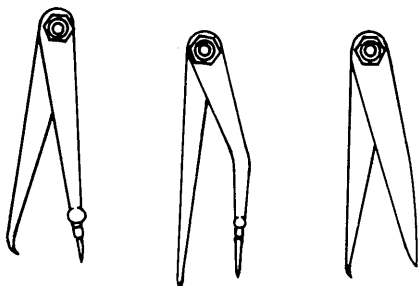

Figure 3-27. Hermaphrodite Calipers
(4) **Hermaphrodite calipers.** The hermaphrodite calipers have one straight leg ending in a sharp point, as shown in figure 3-27. On some models this point is removable. This leg is usually bowlegged. This caliper is used for finding shaft centers or locating shoulders.